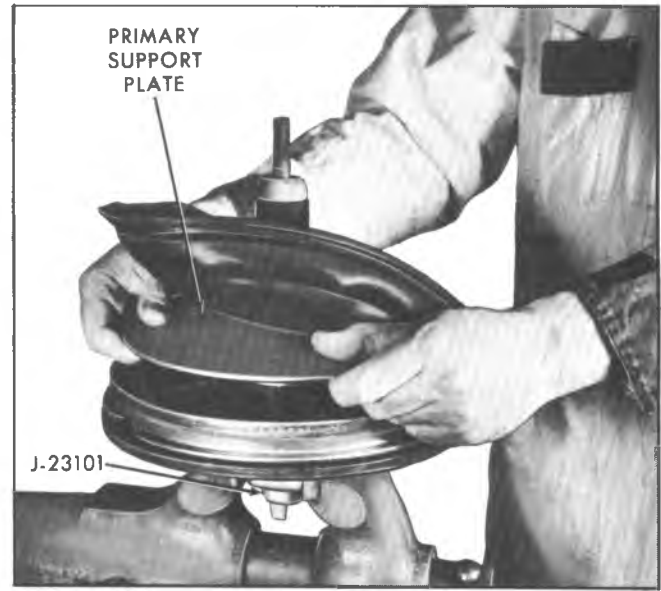

Fig. 5B--Locking or Unlocking Primary and Secondary Power Pistons
NOTE: It is possible that the primary support plate will unlock from the primary piston before the primary piston unscrews from the secondary piston. If this happens, continue to turn the primary support plate counterclockwise. Tabs (stops) on the primary support plate will temporarily lock the primary support plate to the primary power piston and permit continued counterclockwise rotation to unscrew the primary power piston from the secondary power piston (fig. 5B).
33. Grip the edge of the primary support plate, press down, and start the threads on the secondary power piston into the threaded portion of the primary power piston by rotating in clockwise direction (fig. 5B).